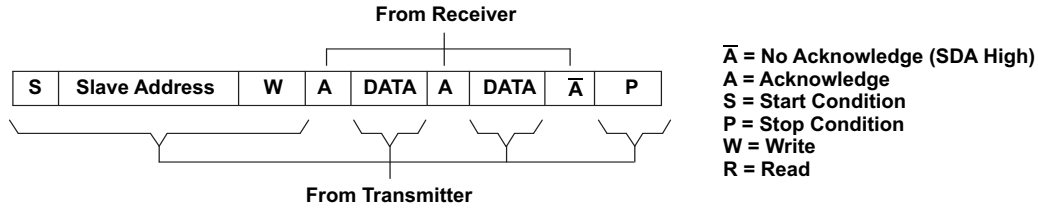
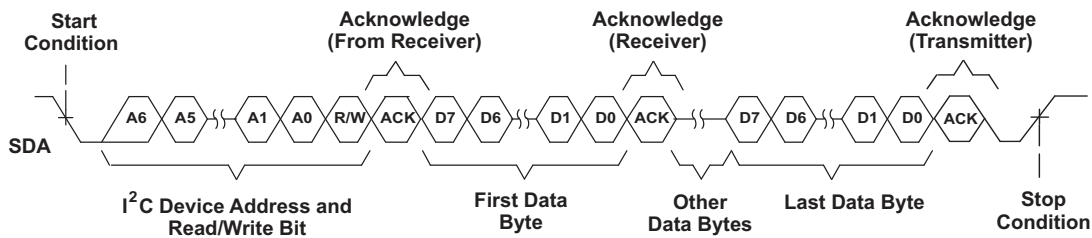
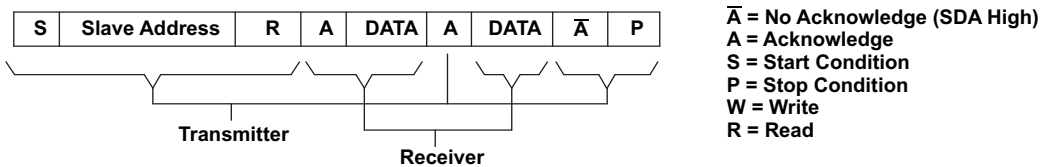
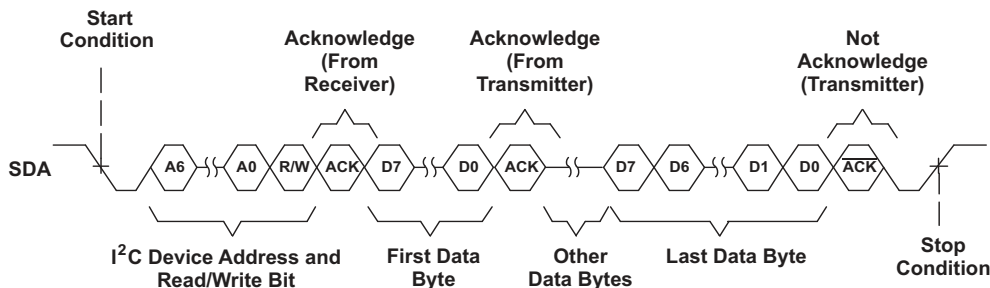

Figure 9. I2C Write Cycle
Figure 10. Multiple Byte Write Transfer
Figure 11. I2C Read Cycle
Figure 12. Multiple Byte Read Transfer
During a write cycle, the transmitting device must not drive the SDA signal line during the acknowledge cycle, so that the receiving device may drive the SDA signal low. After each byte transfer following the address byte, the receiving device pulls the SDA line low for one SCL clock cycle. A stop condition is initiated by the transmitting device after the last byte is transferred. Figure 9 and Figure 10 show an example of a write cycle. Note that the THS7347 does not allow multiple write transfers to occur. See the example, Writing to the THS7347, in WRITE AND READ EXAMPLES for more information.
During a read cycle, the slave receiver acknowledges the initial address byte if it decodes the address as its address. Following this initial acknowledgment by the slave, the master device becomes a receiver and acknowledges data bytes sent by the slave. When the master has received all of the requested data bytes from the slave, the not acknowledge ( $\bar{A}$ ) condition is initiated by the master by keeping the SDA signal high just before it asserts the stop (P) condition. This sequence terminates a read cycle, as shown in Figure 11 and Figure 12. Note that the THS7347 does not allow multiple read transfers to occur. See the example, Reading from the THS7347, in WRITE AND READ EXAMPLES for more information.
The THS7347 operates using only a single-byte transfer protocol similar to that illustrated in Figure 9 and Figure 11. The internal subaddress registers and the functionality of each are given in Table 2. When writing to the device, it is required to send one byte of data to the corresponding internal subaddress. If control of all three channels is desired, then the master must cycle through all the subaddresses (channels) one at a time; see the example, Writing to the THS7347 (in WRITE AND READ EXAMPLES) for the proper procedure of writing to the THS7347.